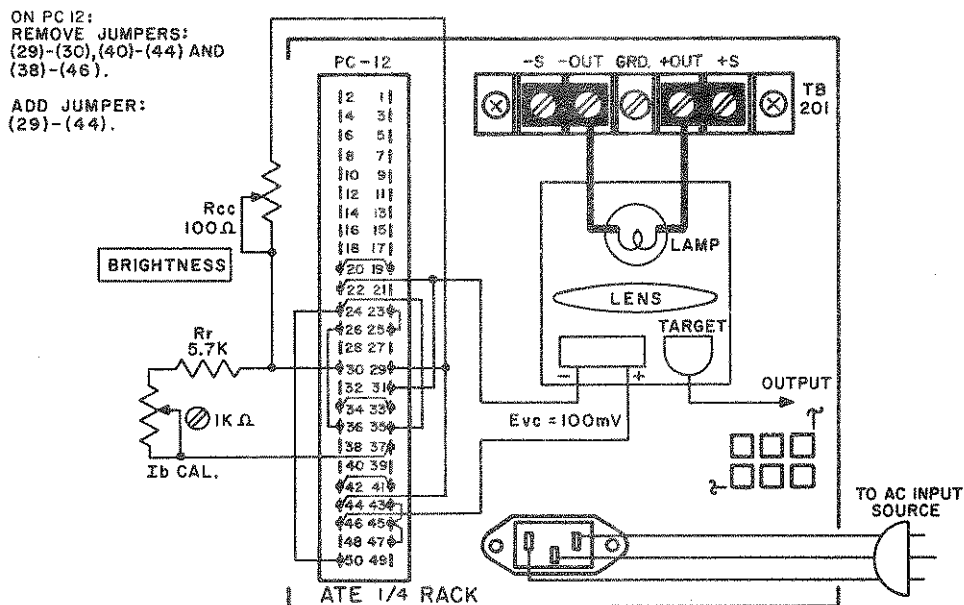

FIG. 3-18 CONNECTIONS FOR ILLUMINATION CONTROL, USING THE EXT. CURRENT COMPARISON AMPL.
- 1) Connect the external components to the ATE power supply as shown in FIG. 3-18.